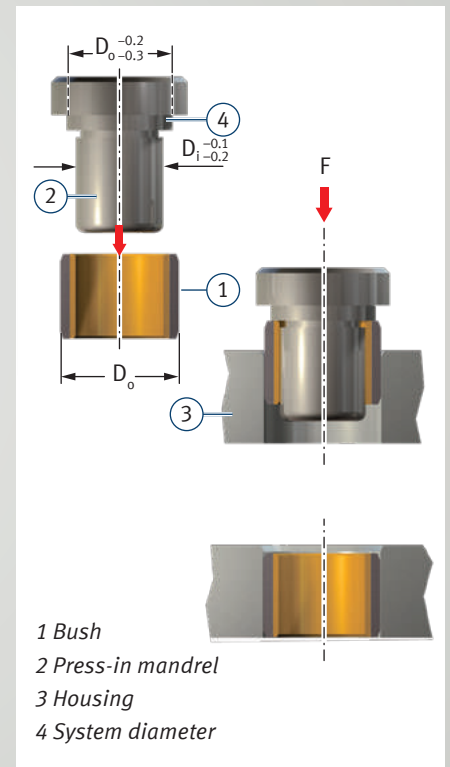

Fig. 52: Recessed press-fitting  $D_o \leq 55$  mm
- Recessed press-fitting with mandrel, without auxiliary ring, as per Fig. 52.